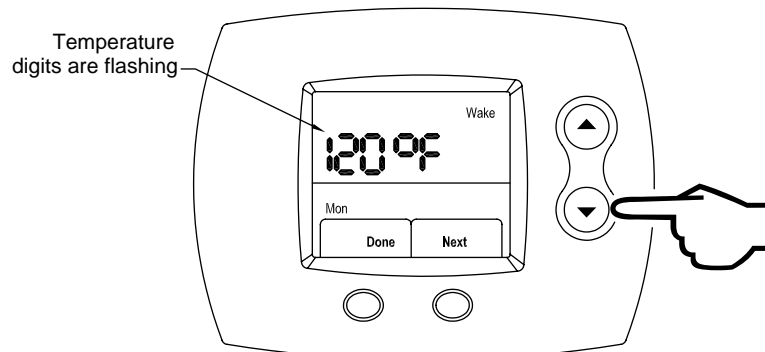

Figure 82
Step 8: Using the **UP** (increase water temperature) or **DOWN** (decrease water temperature) buttons, select the Wake period desired water temperature. This is shown in Figure 82.